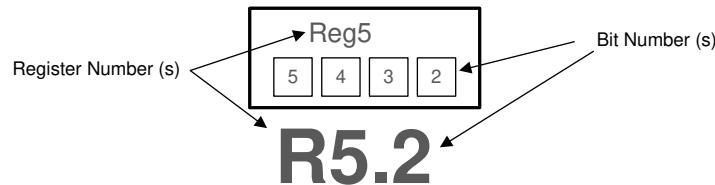

Figure 24. LMK61E08 Register Reference Format
Figure 24 shows the method that this document employs to refer to an individual register bit or a grouping of register bits. If a drawing or text references an individual bit, the format is to specify the register number first and the bit number second. The LMK61E08 contains 38 registers that are 8 bits wide. The register addresses and the bit positions both begin with the number zero (0). The bit address is placed in brackets or after a period. The first bit in the register file is address R0[0] or R0.0 meaning that it is located in Register 0 and is bit position 0. The last bit in the register file is address R72[7] or R72.7, referring to the 8th bit of register address 72 (the 73rd register in the device). Figure 24 also lists specific bit positions as a number contained within a box. A box with the register address encloses the group of boxes that represent the bits relevant to the specific device circuitry in context.